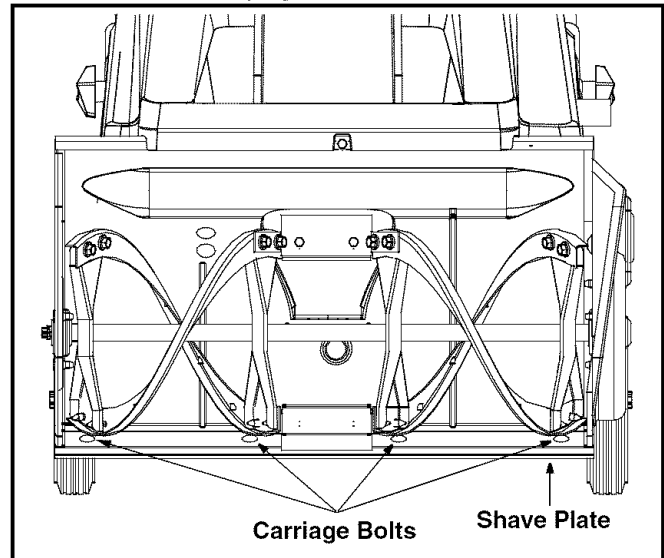

Figure 4
- To adjust, tip the snow thrower back so that it rests on the handle. Loosen the lock nuts from the carriage bolts which secure the shave plate to the housing. See Figure 4.
- Remove the four carriage bolts and hex lock nuts which secure it to the snow thrower's auger housing. Refer to Figure 4. Figure 4